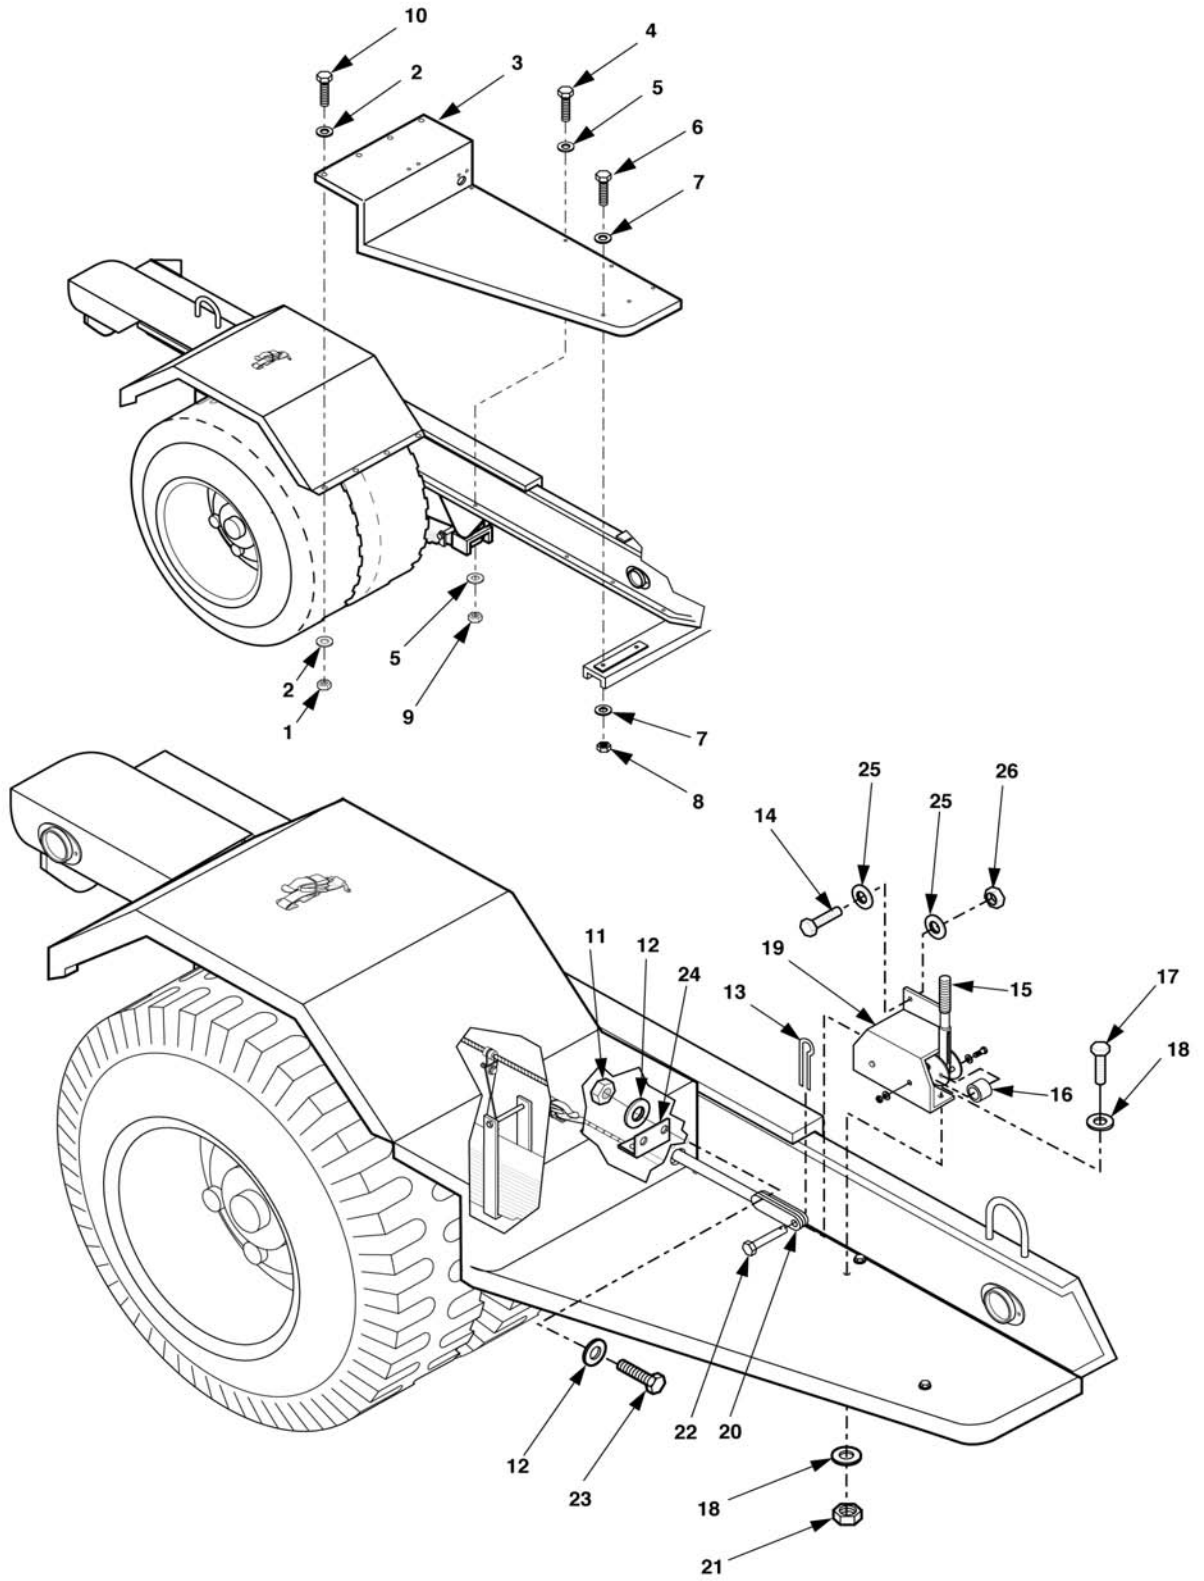

Figure 4-22. Front Step Replacement
3. Remove cotter pin (13, figure 4-22), spacer (16), and clevis pin (22), securing handbrake cable to handbrake lever mechanism (15). Discard cotter pin (13).
4. Remove self-locking nuts (26), flat washers (25), and cap screws (14) which secure handbrake bracket (19) to trailer frame. Discard self-locking nuts (26).
5. Remove self-locking nuts (21), flat washers (18), and cap screws (17), securing handbrake bracket (19) to front step (3). Discard self-locking nuts (21).
6. Remove handbrake bracket (19) and handbrake mechanism (15).
7. Remove self-locking nuts (11), flat washers (12), and cap screws (23), which secure brake cable bracket (24) to front step (3). Remove clevis (20). Discard self-locking nuts (11).
1. Position front step (3, Figure 4-22) on cross braces and trailer frame. Insert handbrake clevis (20) through hole in front step (3).
2. Install cap screws (6), flat washers (7), and new self-locking nuts (8), which secure front step (3) to chassis.
3. Install cap screws (4), flat washers (5), and new self-locking nuts (9), which secure front step (3) to trailer frame.
4. Install cap screws (10), flat washers (2), and new self-locking nuts (1), which secure front step (3) to fender.
5. Install cap screws (23), flat washers (12), and new self-locking nuts (11), which secures brake cable bracket (24) to front step (3).
6. Position handbrake bracket (19) and handbrake lever mechanism (15) on front step (3).
7. Install cap screws (17), flat washers (18), and new self-locking nuts (21), which secure hand break bracket (19) and hand break mechanism (15) to front step (3).
8. Install cap screws (14), flat washers (25), and new self-locking nuts (26) which secure hand break bracket (19) to trailer frame.
9. Position handbrake cable to handbrake mechanism (15) and install clevis pin (22), spacer (16), and secure with new cotter pin (13).